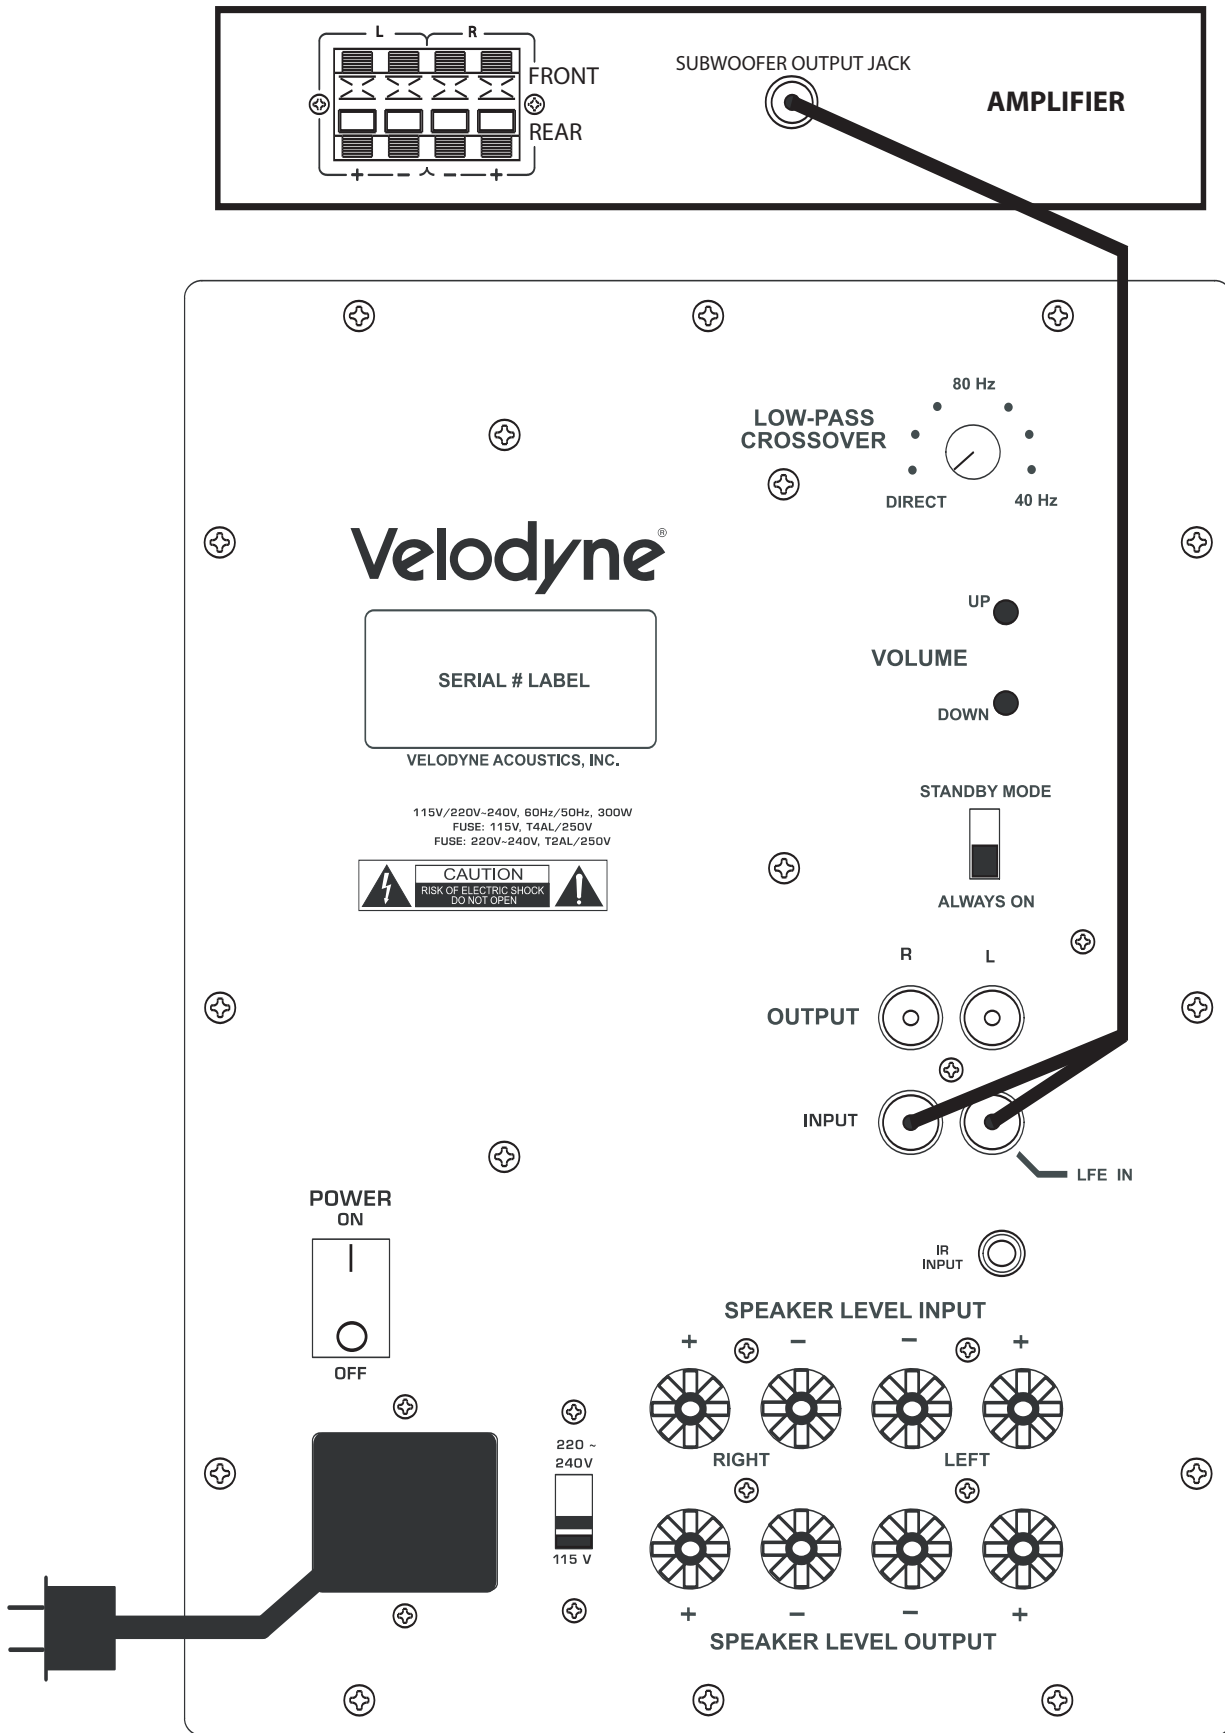
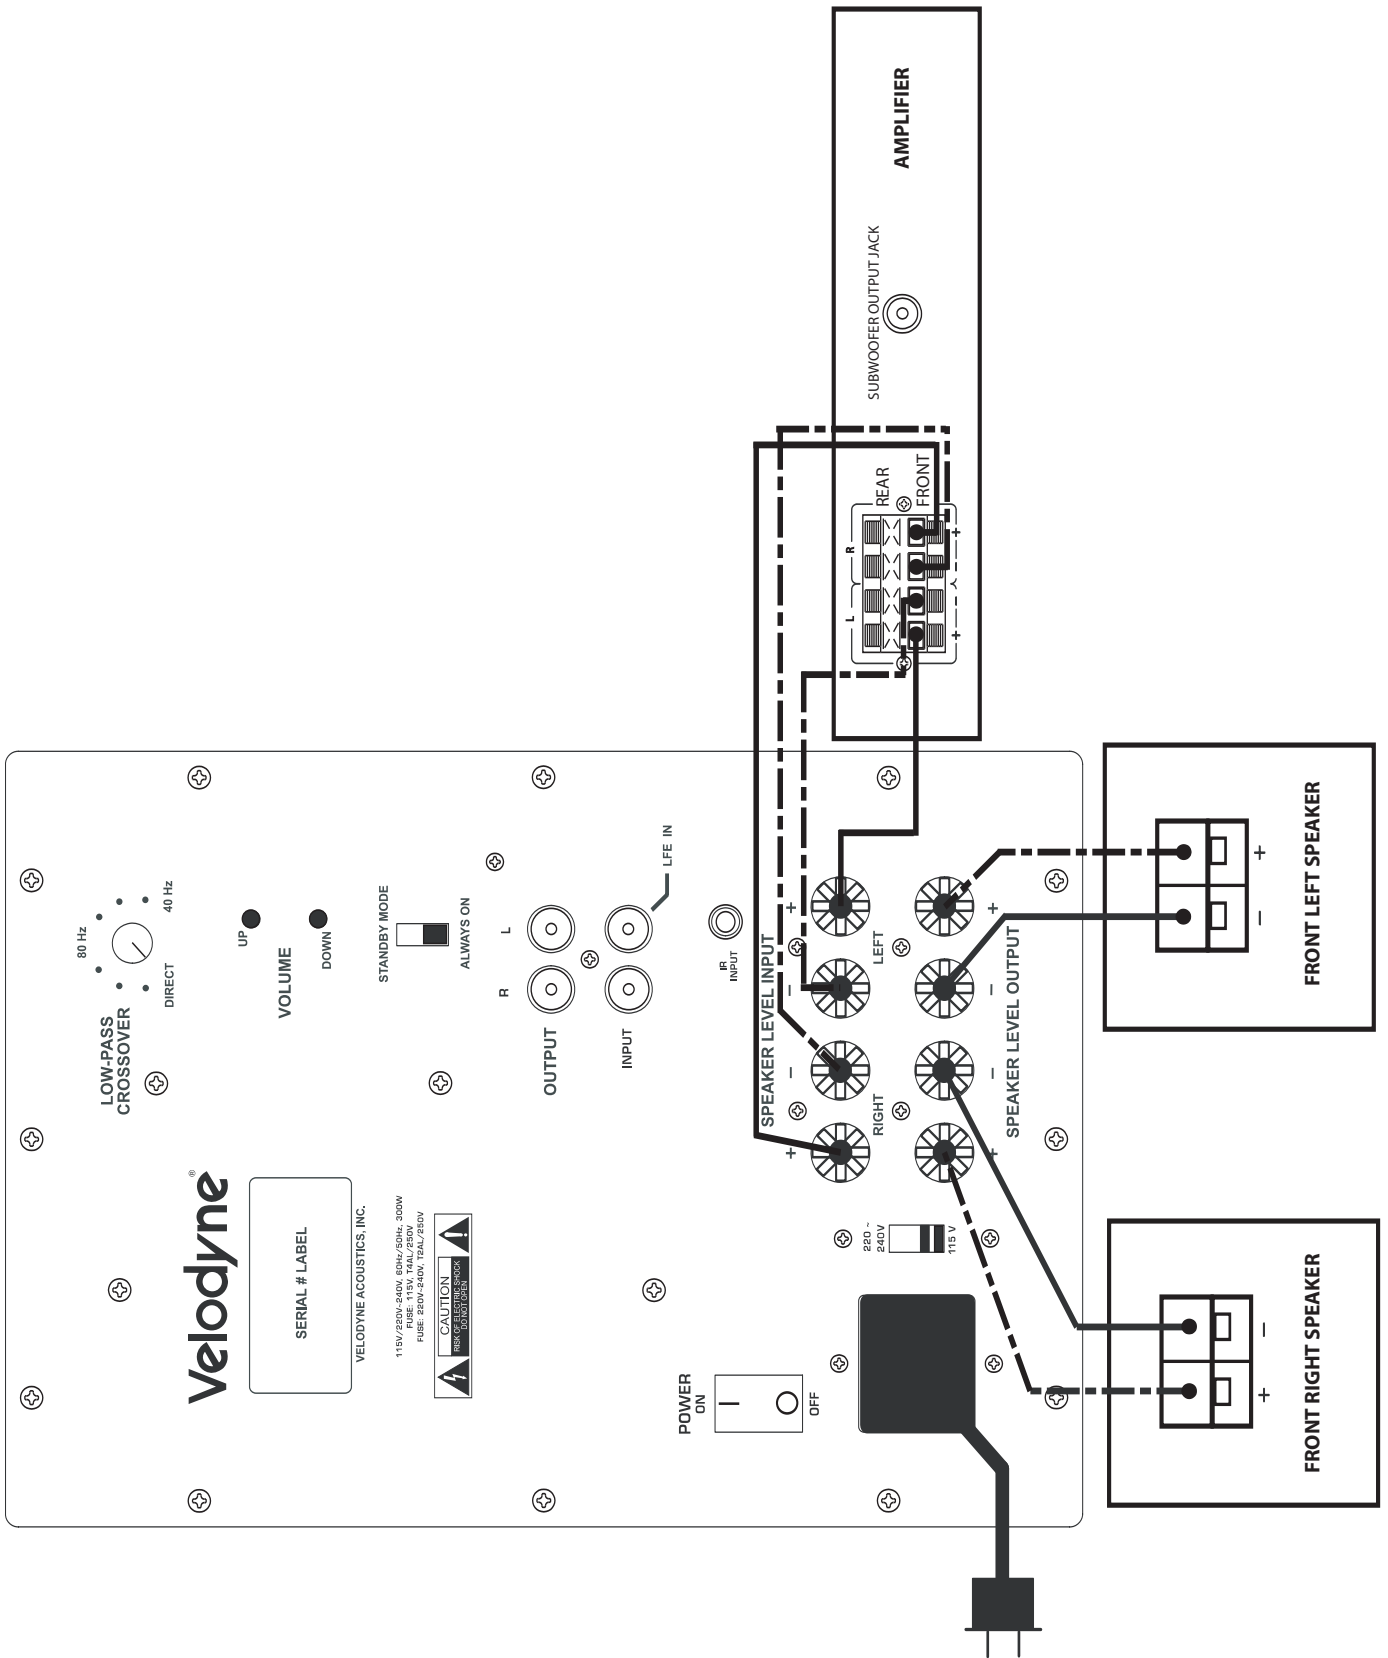

Figure 2a. Line-Level Subwoofer Connection Diagram
Figure 2b. Speaker-Level Subwoofer Connection Diagram
- 1) If using line level jacks, BOTH THE LEFT AND RIGHT INPUT SHOULD ALWAYS BE USED – never use just the left or just the right input. If using line level connections from a preamp or signal processor, use both Left and Right inputs from your preprocessor or preamp and connect them to the Left and Right inputs on your subwoofer. (See figure 2a on page 10.)
- 2) If using a receiver with LFE out, be sure the LFE channel is sending adequate signal to the subwoofer. The subwoofer's default volume setting is 30 on a 1-80 scale (roughly 1/3 volume). Adjust the LFE channel on your receiver or processor to achieve the desired bass output. See your receiver or processor's owner's manual for more information. (See figure 2b on page 11.)
(Refer to Figure 2a Line-Level Subwoofer Connection Diagram and Figure 2b Speaker-Level Subwoofer Connection Diagram, pages 9 and 10 for connection diagrams.)